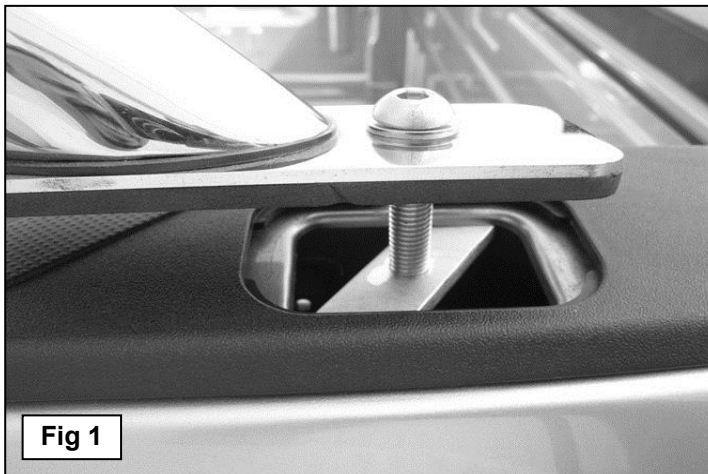

Fig 1
- On vehicles with removable covers:** Remove the small plastic cover over each stake pocket, (Figure 1).